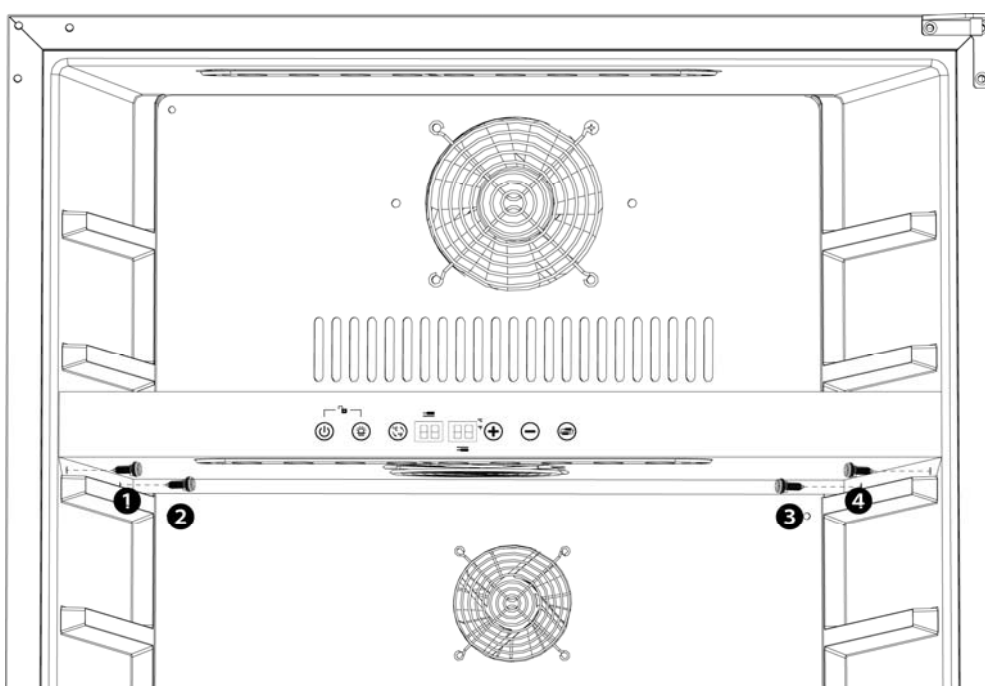

Figure 6
- Separator Board after disassembled (**Figure 6**);